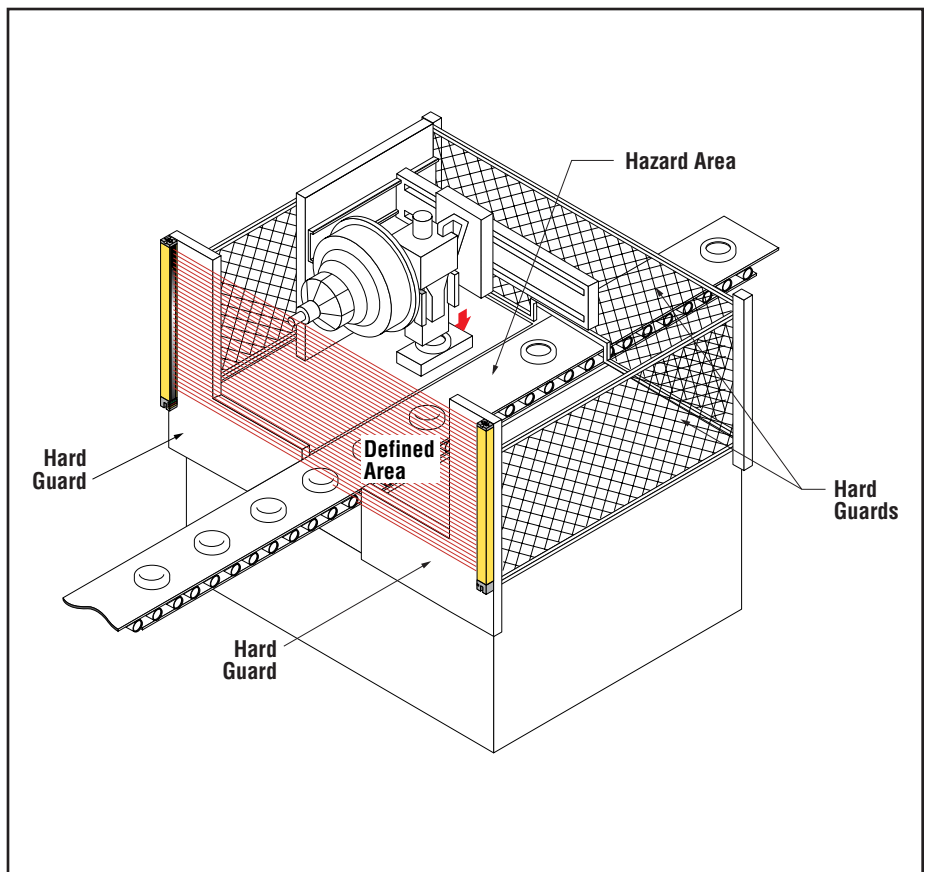

Figure 8. Example of hard guarding
ANSI B11.1-1988, 6.3.2 (14) requires that “all areas of entry to the point of operation not protected by the presence-sensing device shall be otherwise safeguarded.” The hazard point must be accessible *only* through the defined area. This means that mechanical barriers (screens, bars, etc.), or supplemental presence sensing devices (*supplemental guarding*) must be installed, wherever needed, to prevent any person from reaching around, under, or over the defined area and into the hazard point, and to prevent any person from standing between the defined area and the hazard point (see OSHA 1910.212). The use of mechanical barriers for this purpose is called “hard guarding” (see the WARNING at left and Figure 8, below).